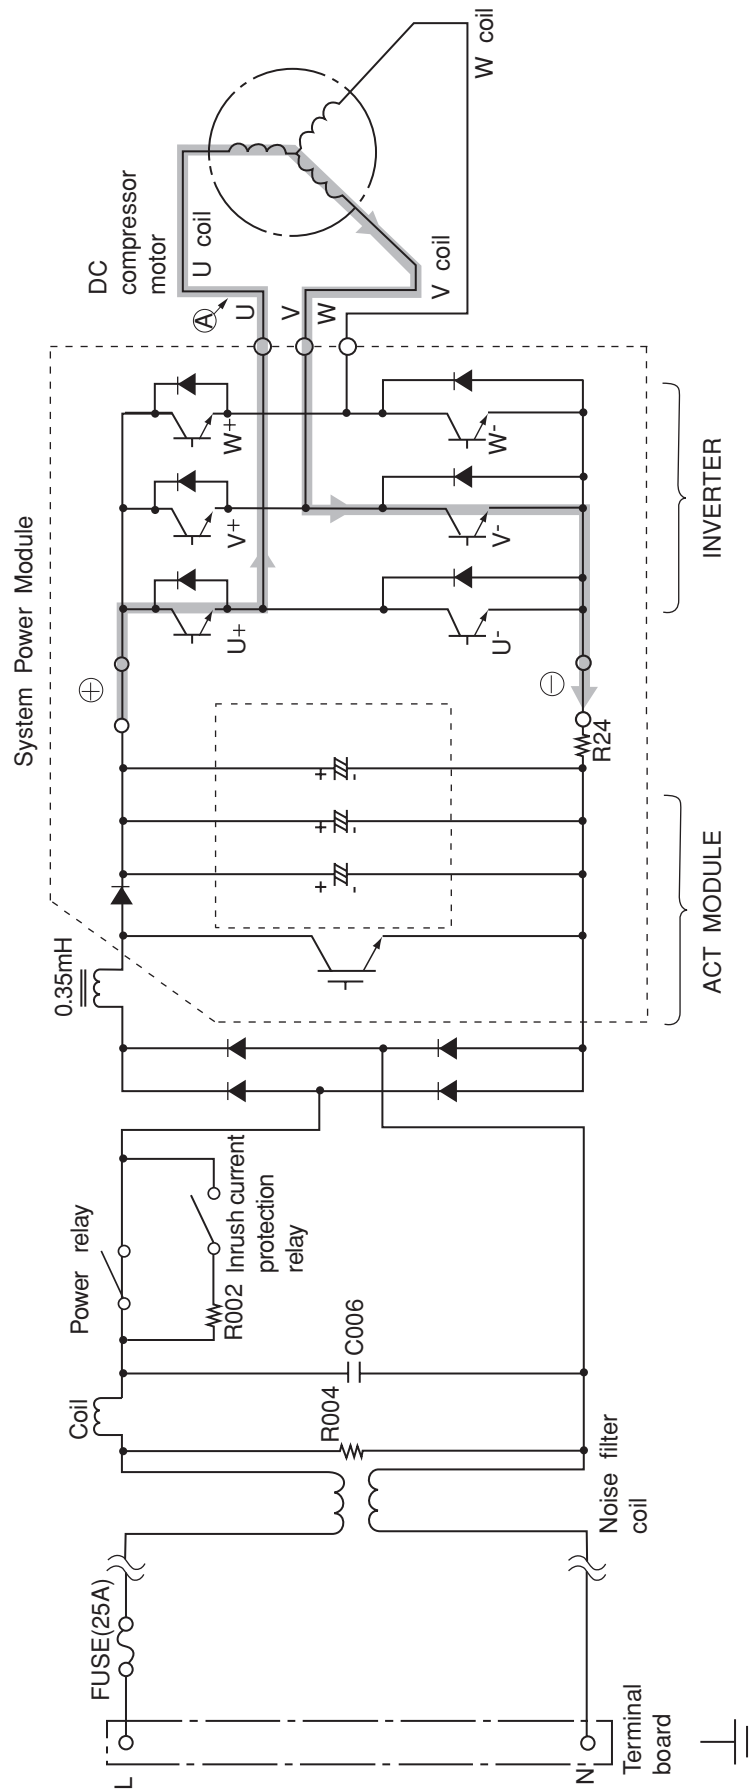
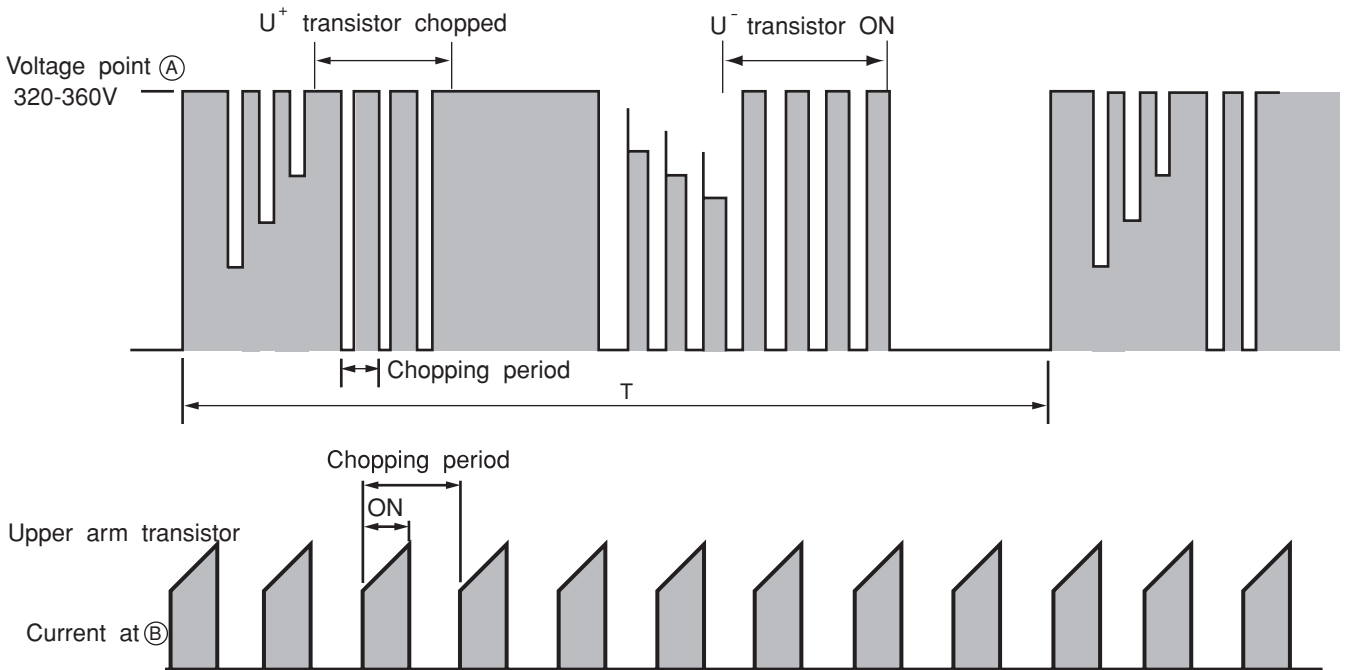

Fig. 3-1 System power module circuit (U+ is ON, V- is ON)
Fig. 3-3 Voltage waveform at each point
- Fig. 3-1 shows the system power module and its peripheral circuits. (Current ACT module and power module are combined into one unit.) The three transistors on the positive ⊕ side are called the upper arm, and the three transistors on the negative ⊖ side, the lower arm.
※ At point E: U+ is ON, V- is ON (circuit in Fig. 3-1)
- Fig. 3-3 shows voltage / current waveform at each point shown in Figs. 3-1 and 3-4. First half of upper arm is chopper, second half is ON, and first half of lower arm is chopper, second half is ON.
- When power is supplied U+ → U-, because of that U+ is chopped, current flows as shown below; ②
- (1) When U+ transistor is ON: U+ transistor → U coil → V coil → V- transistor → DC current detection resistor → Point ② (Fig. 3-1)
- Since current flows at point ⓑ only when U+ transistor and V- transistor is ON, the current waveform at point ⓑ becomes intermittent waveform as shown in Fig. 3-3. Since current at point ⓑ is approximately proportional to the input current of the air conditioner, input current is controlled by using DC current (Id) detection resistor.